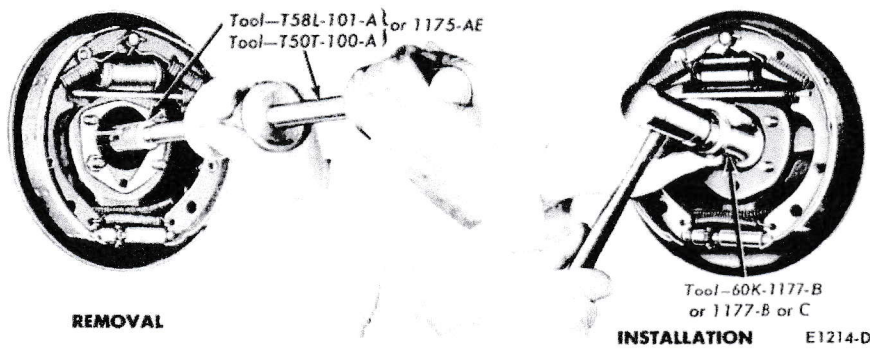

FIG. 9—Removing and Installing Axle Shaft Seal
removed, the oil seal must be replaced. Remove the seal with the tools shown in Fig. 9. Soak new oil seals in SAE 10 oil for ½ hour before installing.
13. Install the new oil seal with the tools shown in Fig. 9. Installation without use of the proper tool will distort the seal and cause leakage. Be sure the new seal has been soaked in SAE 10 oil for ½ hour.
8. Remove both axle shaft oil seals with the tools shown in Fig. 9.
3. Install new axle shaft oil seals with the tool shown in Fig. 9. Soak the new seals in light weight engine oil (SAE 10) for ½ hour before installing them. **Installation without use**
3. Working through the hole provided in each axle shaft flange, remove the nuts that secure the rear wheel bearing retainer plate. Pull each axle shaft assembly out of the axle housing (Fig. 5). Install a nut on one of the brake carrier plate retaining bolts to hold the plate to the axle housing after the shaft has been removed. **Whenever a rear axle shaft is removed, the wheel bearing oil seal must be replaced.** Remove both seals with the tools shown in Fig. 9.
5. Soak two new rear wheel bearing oil seals in SAE 10 oil for ½ hour before installation. Wipe a small amount of an oil resistant sealer on the outer edge of each seal before it is installed. **Do not put any of the sealer on the sealing lip.** Install the oil seals in the ends of the rear axle housing with the tool shown in Fig. 9.